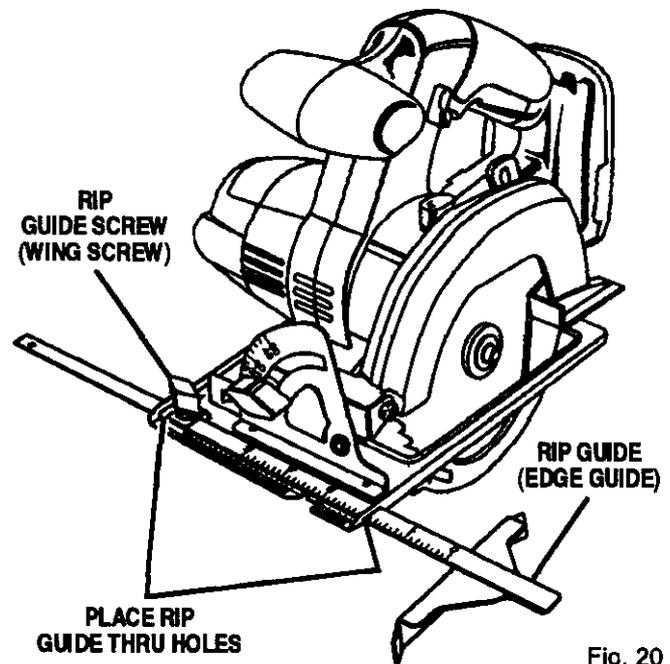

Fig. 20
- Place rip guide through holes in saw base as shown in figure 20.